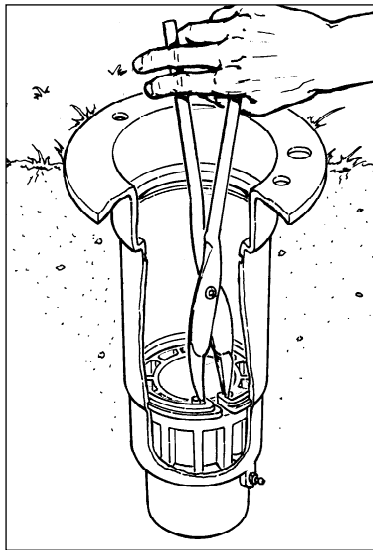

Figure 2
1. To remove valve assembly, squeeze ears of snap ring together with snap ring pliers (P/N 995-07) and remove snap ring from sprinkler body. (See **Figure 2**.)